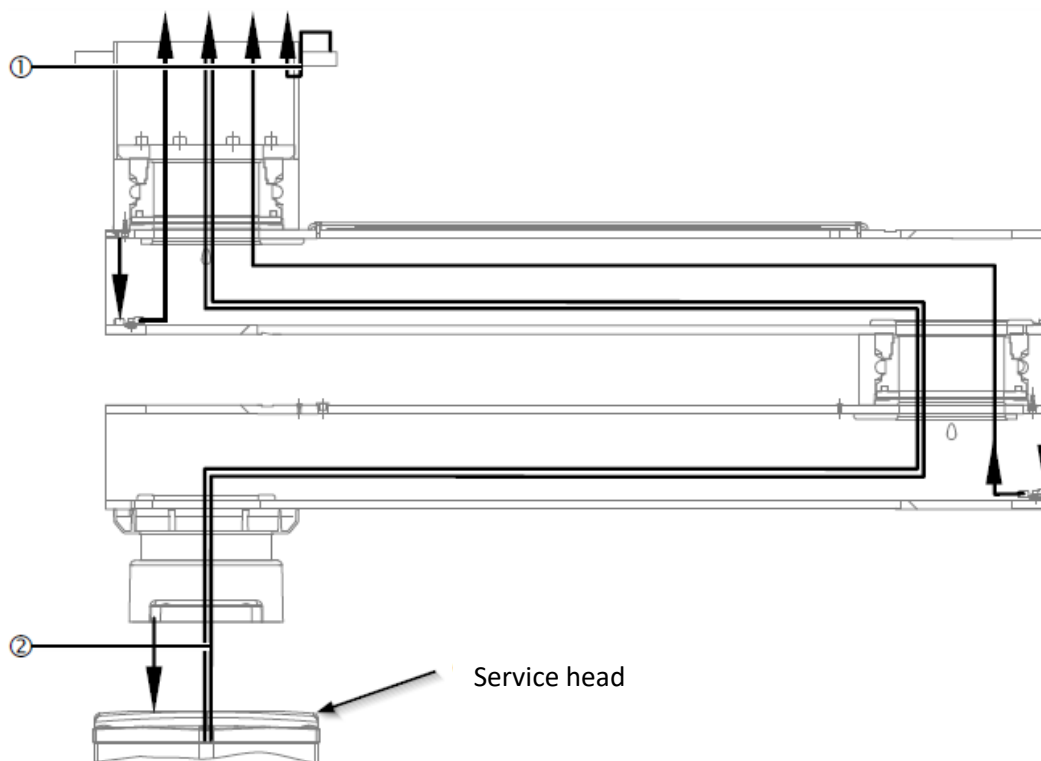

Fig. 21 Connection of earthing cables
- Insert the 4 M8 socket head cap screws ① into the 4 recesses provided in the upper part of the service head.
- For each M8 socket head cap screw ①, place 1 S10 lock washer ② (as illustrated in Figure 21) so that the flat washer is seated between the upper seal of the service head (on the inside) and the corresponding hexagon nut ③.